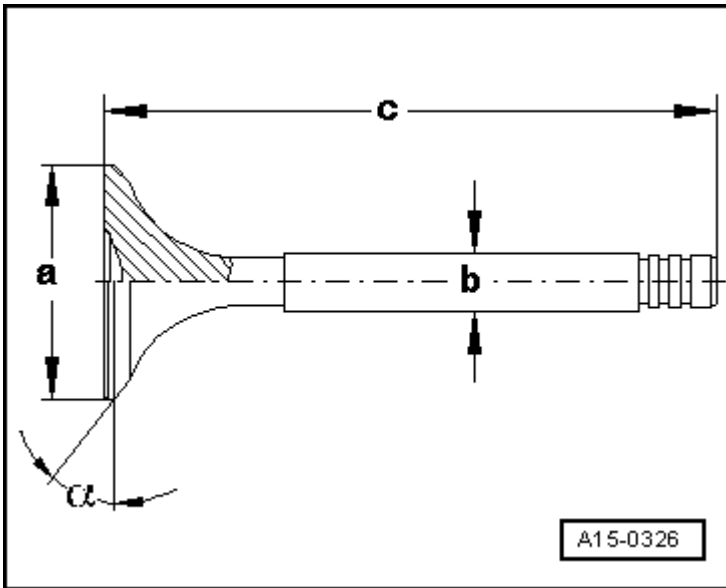

Fig. 8: Identifying Valve Dimensions
- Valve dimensions, refer to **Fig. 8**.